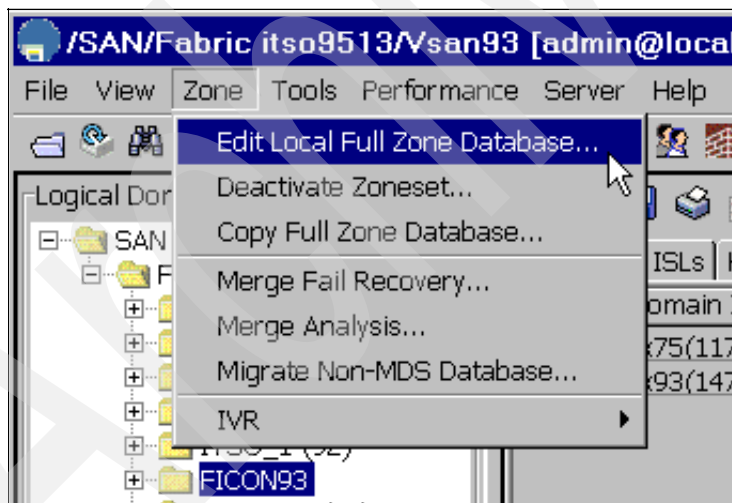

Figure 53 FICON93
- Edit the zone database for the FICON93 VSAN (Figure 53).